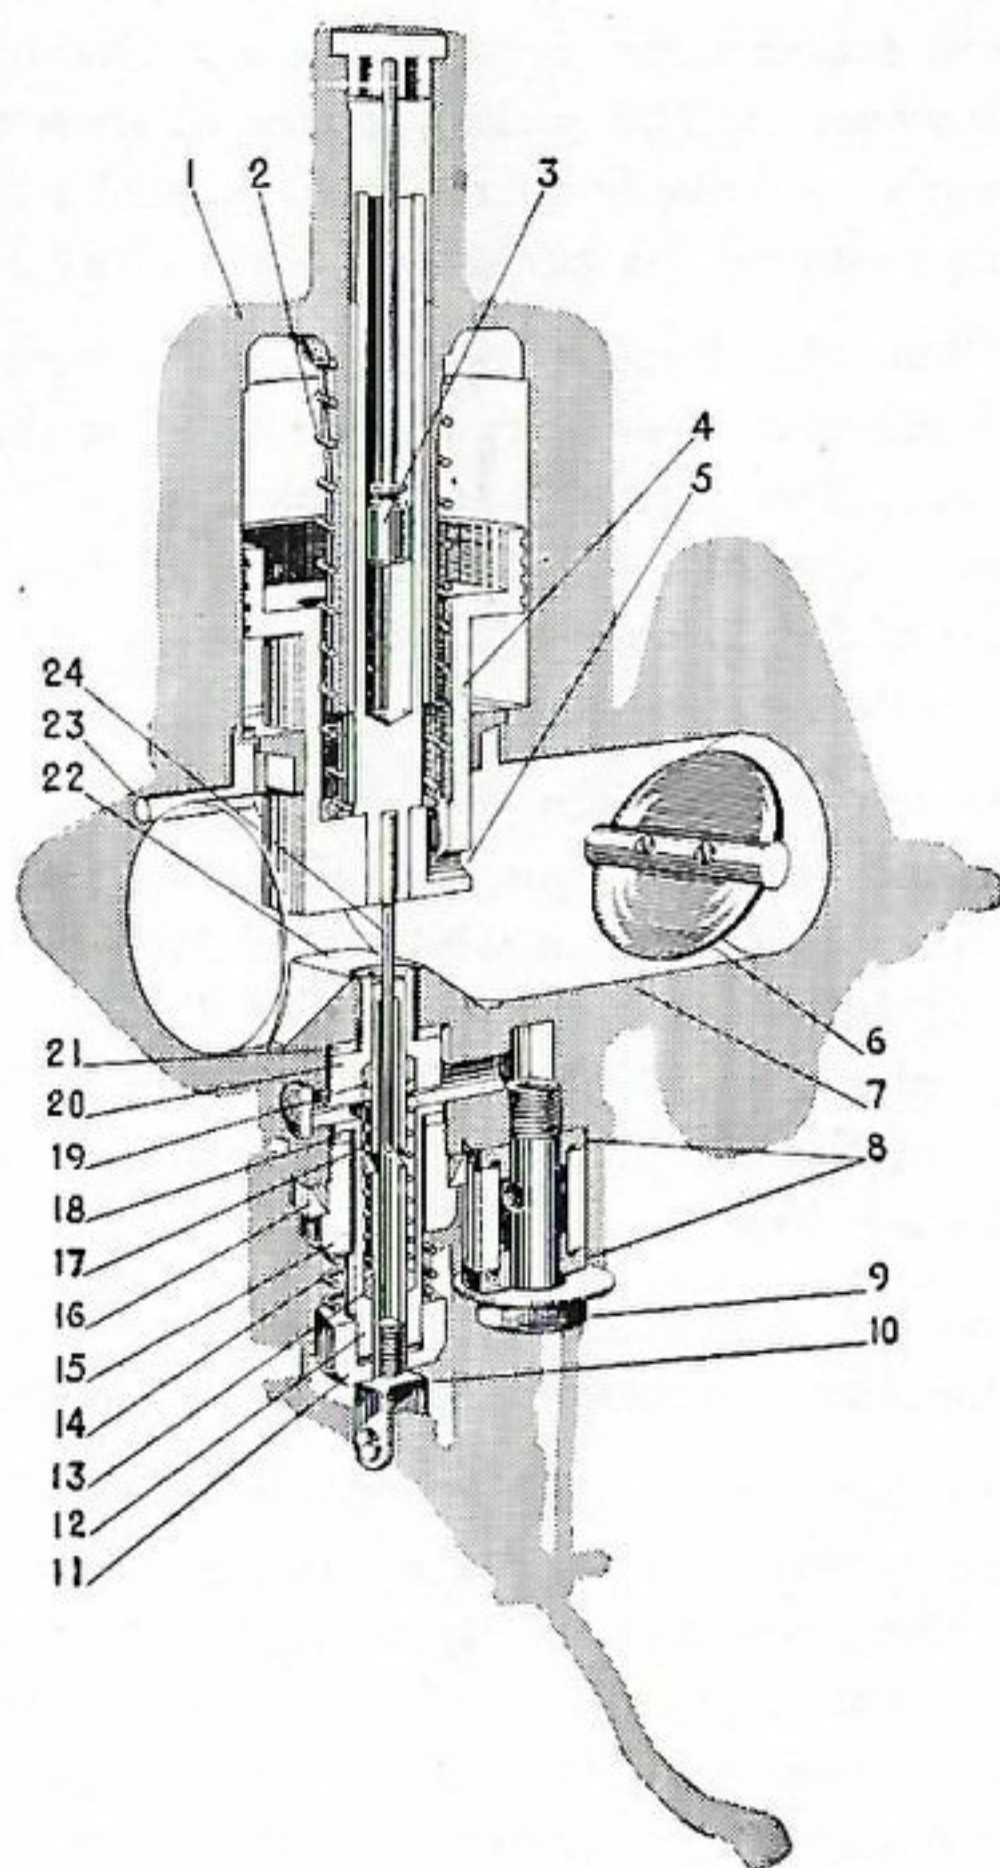

Fig. 1. Carburetor, operating position.
The quantity of fuel/air mixture supplied to the engine is controlled by means of the throttle shutter (6, Fig. 1) in the carburetor housing (7) which takes the form of a channel but also acts as a body on which the various carburetor components are built.